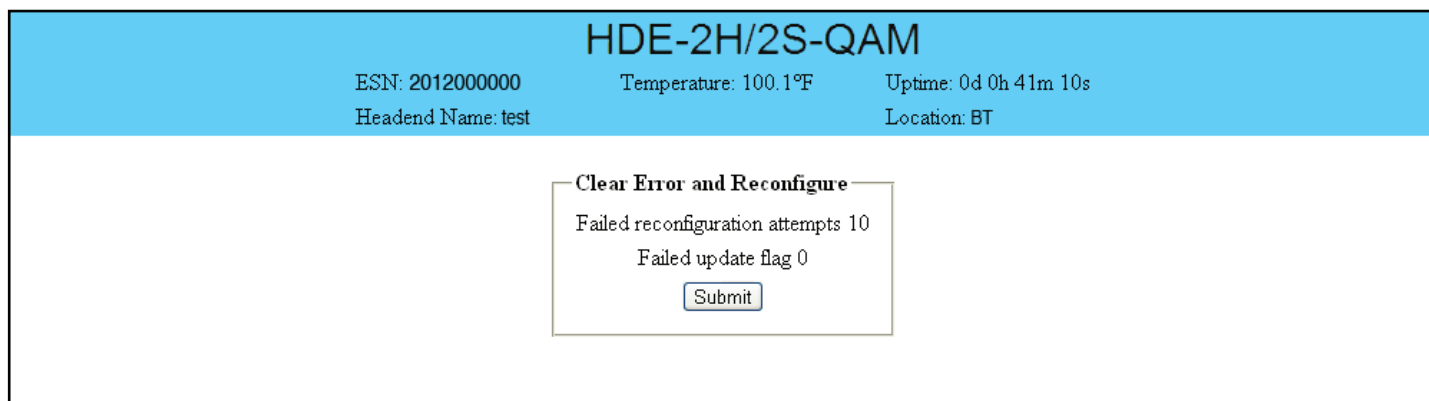

Figure 5.15
Warning: Care should be taken at this time, if misspelled characters or letters are typed by accident, or you have missed to type the bin command in Step 1, this could cause the HDE-2H/2S-QAM Flash memory to be corrupted. The HDE-2H/2S-QAM will try to reload the OS using the corrupted file ten (10) times before it displays the following screen (Figure 5.15). You can recover from this situation by repeating the procedure all over again from Step 1 above.